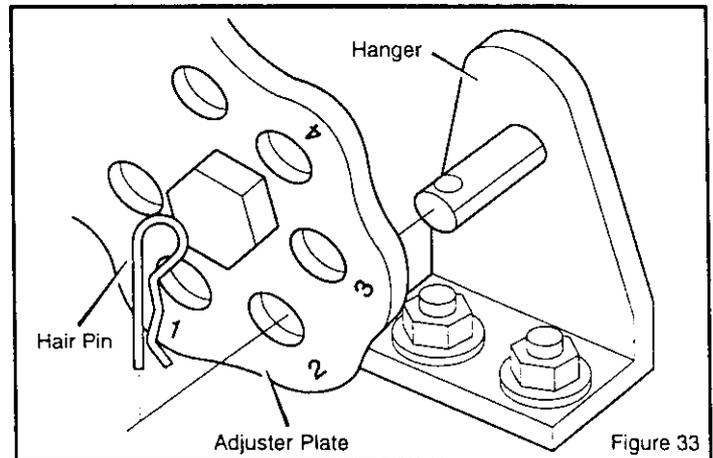

Figure 33
1. Disconnect one or both **adjuster plates** from the **hangers** (Figure 33).